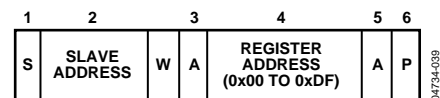

Figure 28. Setting a RAM Address for Subsequent Read
- To write a register address to RAM for a subsequent single byte read from the same address, or a block read or write starting at that address, as shown in Figure 28.